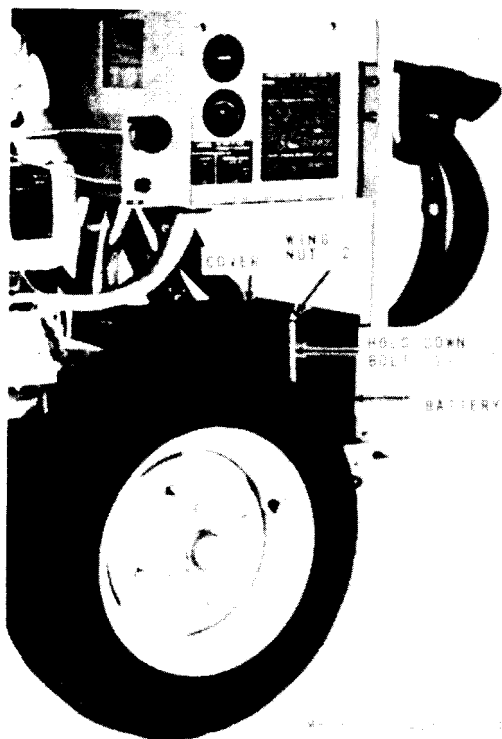

Figure 3-4. Battery removal and installation.
- (1) Remove two wingnuts, flatwashers, lockwashers, and nuts a battery hold down bolt (fig. 3-4).
- (2) Disconnect battery leads from battery.
- (3) Lift battery out of the frame.
- (2) Position battery in frame.
- (3) Connect battery leads.
(4) Secure battery in place with two battery hold down bolts, wingnuts, flatwashers, lockwashers and nuts (fig. 3-4).